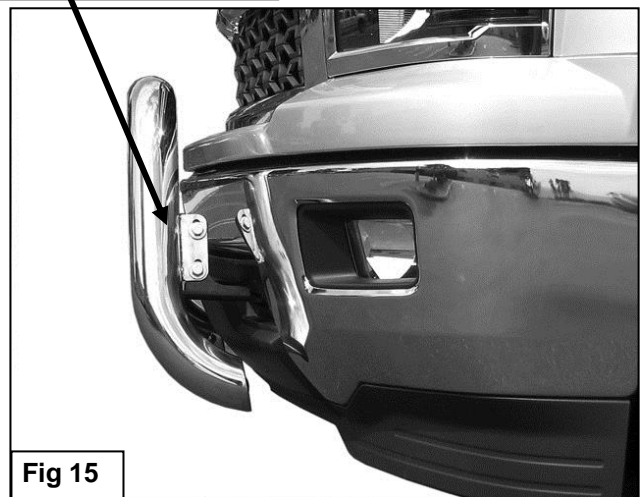

Fig 15
7. With assistance, hold the Bull Bar up in position on the outside of the Mounting Brackets. Bolt the Bull Bar to the Brackets with (4) 10mm x 30mm Hex Bolts, (8) 10mm Flat Washers and (4) 10mm Nylon Lock Nuts, (**Figure 15**). Do not tighten hardware at this time.